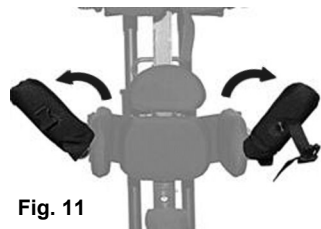

Fig. 11
- Flip the front hip support pads upward and outward (fig. 11). If your *KidWalk/KidWalk II* is equipped with upper Lateral Support Pads, flip them upward and outward as well.